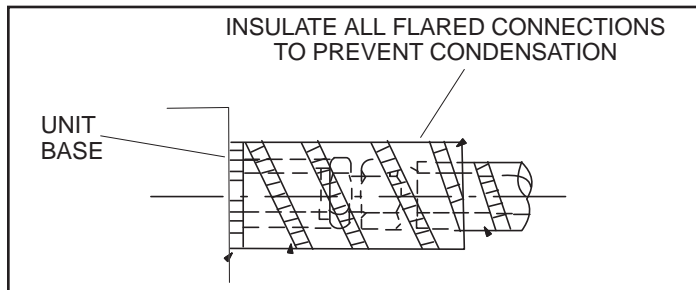

**Figure 5. Liquid Line / Expansion Valve Connector**
10. Immediately align the connector pipe with the cassette base liquid line and the electronic expansion valve connection labeled "OUTLET." See figure 5. Hand-tighten the flare nuts at first. Then, use two wrenches to continue to tighten the nuts without twisting the pipes. See figure 4. Torque requirements are given in table 2. **Again, do not over-tighten the flared joints.**